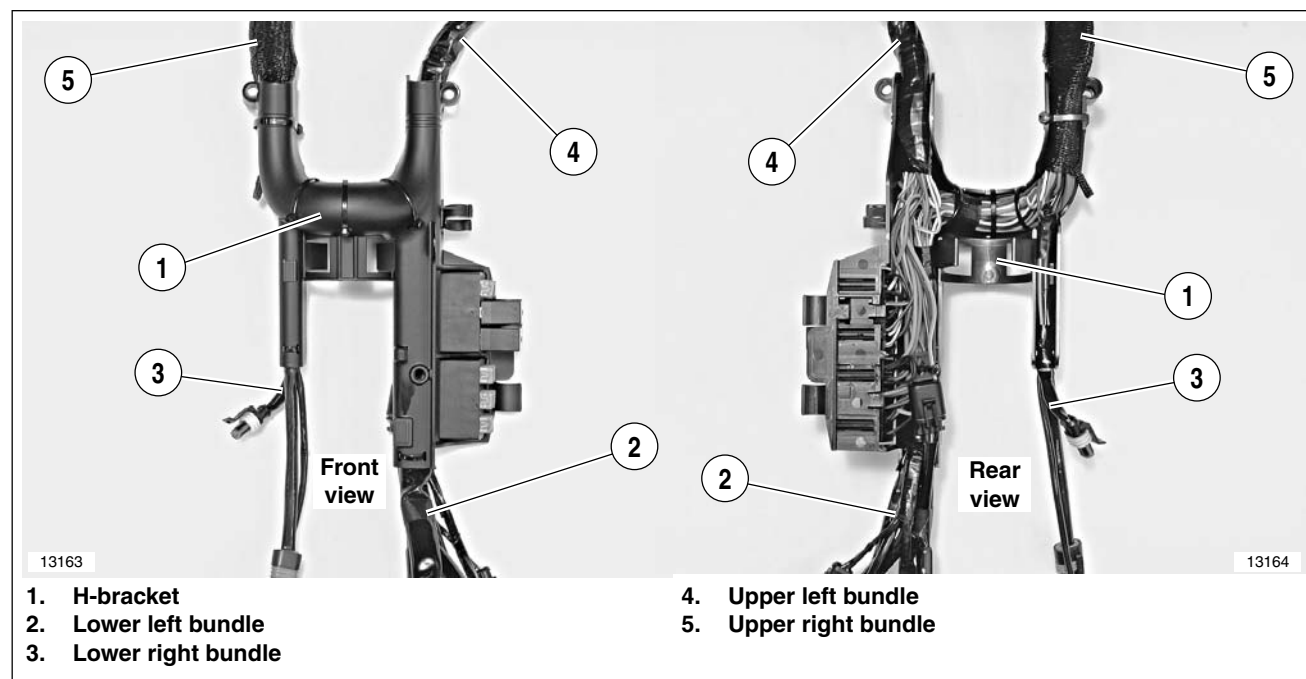

Figure 7-109. Main Wiring Harness H-Bracket
See Figure 7-109. The main wiring harness can be divided up into four “bundles”, originating at the H-bracket (1). These bundles are:
1. See Figure 7-109. Loosely position **new** main wiring harness on vehicle. From left side of vehicle, slide H-bracket (1) into position on rear frame downtube, guiding each wire bundle toward its respective area on the vehicle. Make sure lower right bundle (3) and upper right bundle (5) with wire harness caddies feed out toward right side of vehicle. Press H-bracket onto rear frame downtube until it snaps in place.
2. Feed upper left bundle (4) up over top of oil tank. Make sure engine sub-harness also feeds up into that area.